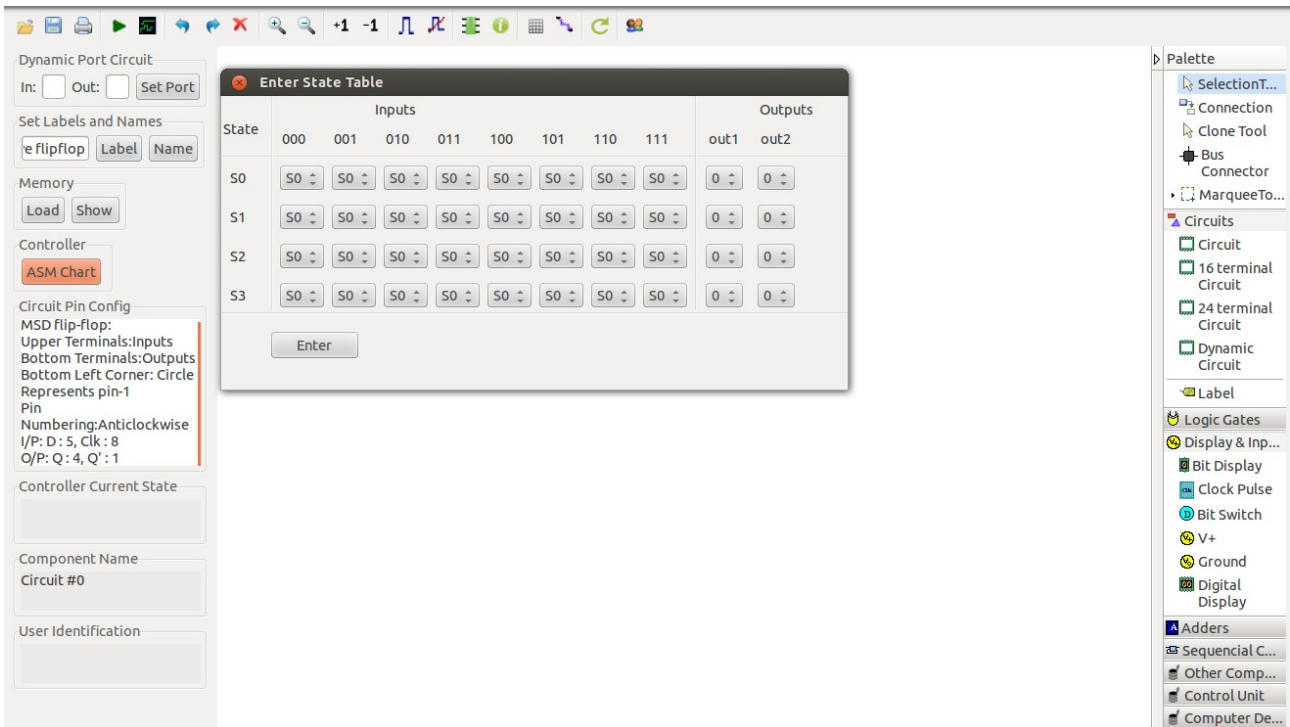

Figure 3. Interface to load state chart (ASM chart) to the controller for computer design experiment
- For loading ASM chart, enter the number of states, inputs and output control signals. The name of the control signals can be changed as per the requirement. Now, the state table can be added using the drop down box as shown in Figure 3.